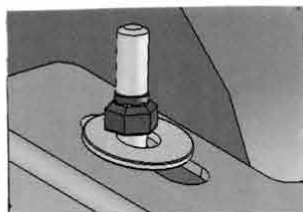

FIGURE 2b
- 7 Adjust (4) brush height adjustments bolts leaving 1/8" to 1/4" space between washer and lock nut (fig 2b)